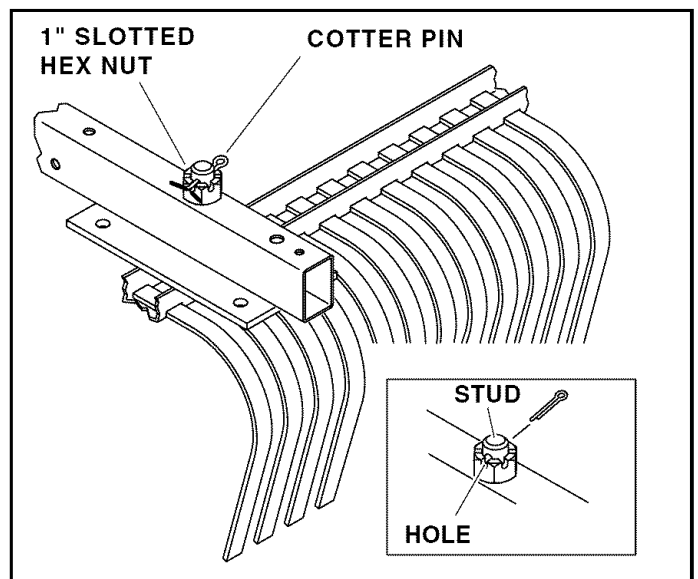

FIGURE 3
3. To prevent the slotted nut from turning on the threaded stud, install the cotter pin through the hole in the stud. Then bend both ends of the cotter pin around the crown of the nut to secure the pin and nut. See figure 3.